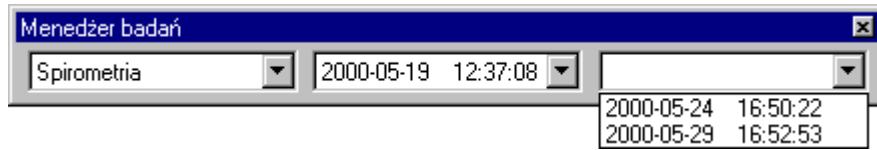

Fig.. 16 Test manager with the pulled out list *Subordinate test date*.
3. If the test opened in item 4 has its subordinate tests, after its opening the list *Subordinate test date* will be pulled out. (⇒Fig.16).